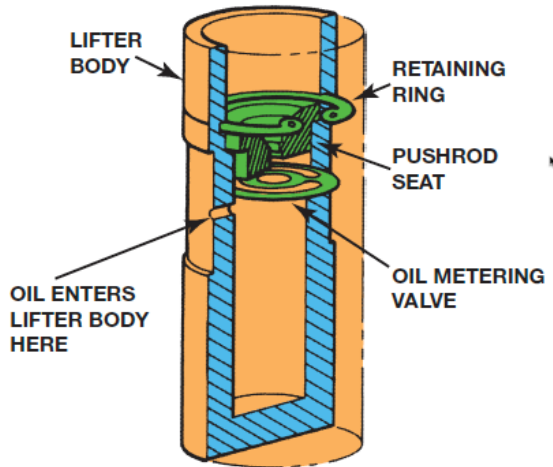

Figure 17. A solid lifter. The oil metering valve supplies oil to the hollow pushrod to lubricate the rocker arms. This type requires mechanical adjustment.
- One involves a solid valve lifter, which can be adjusted mechanically at the rocker arm or by changing shims on certain overhead camshaft engines. Fig 17.